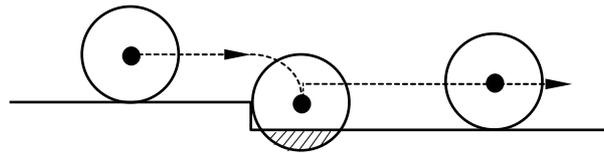

Fig 3-39 Over-cutting (Shaded area)
6. When machining a step-wise work-piece with step size smaller than the tool radius, over-cutting will be produced as shown in Figure 3-39.